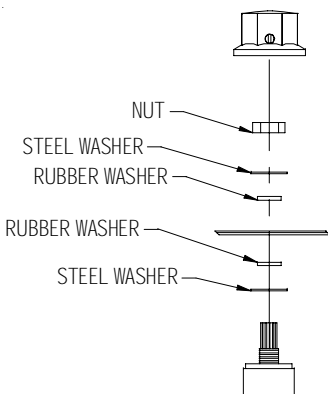

Figure 8
5. Remove the unit control knob by loosening the setscrew and pulling the knob off the potentiometer shaft. Also, remove the nut as well as the metal and rubber washers. (See Figure 8.)